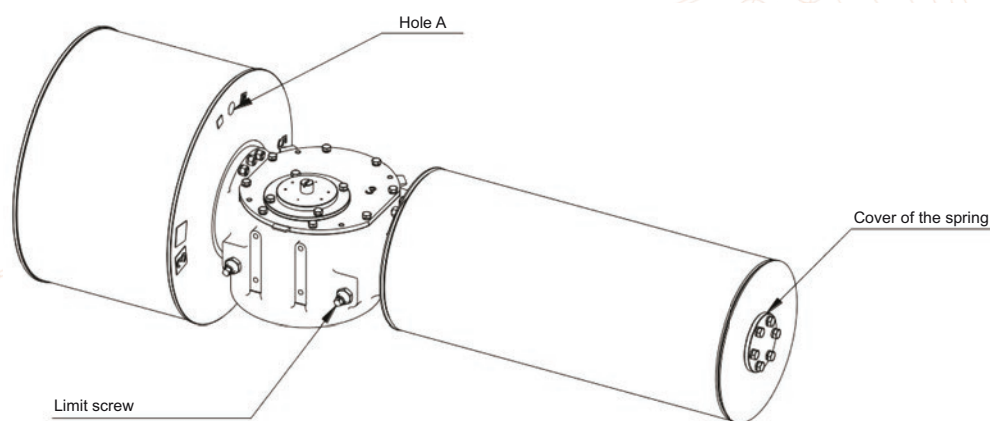

Figure 19
2. Completely withdraw the limit screw (see Figure 19) near the side of the spring module.